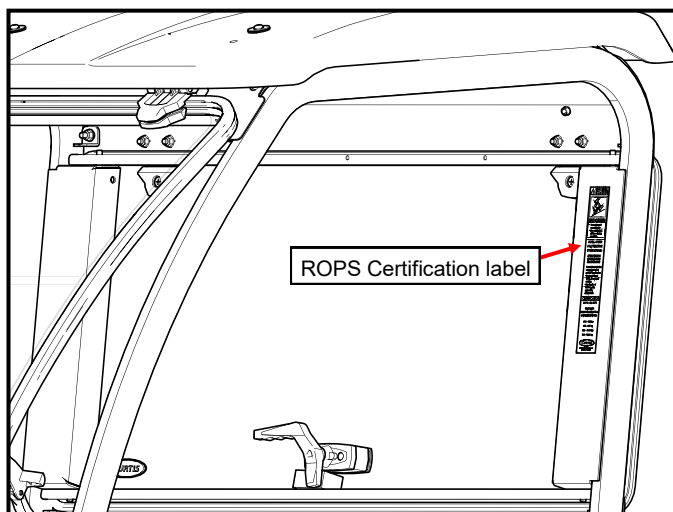

Figure 8.3: ROPS Certification Label
- 8.3 Apply ROPS Certification Label to the driver's side cab frame as shown (**Figure 8.3**).